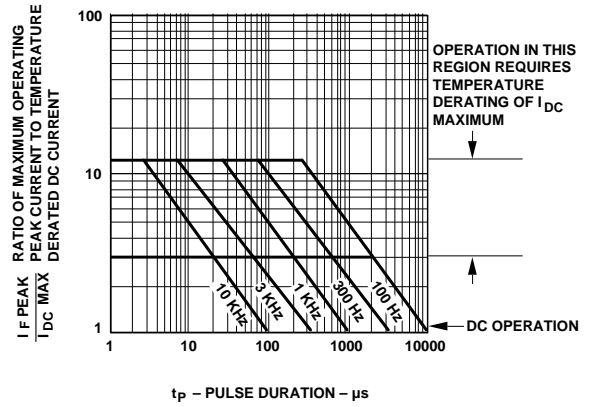

Figure 6. Maximum Tolerable Peak Current vs. Pulse Duration – Green.
3. See Figure 6 to establish pulsed conditions.